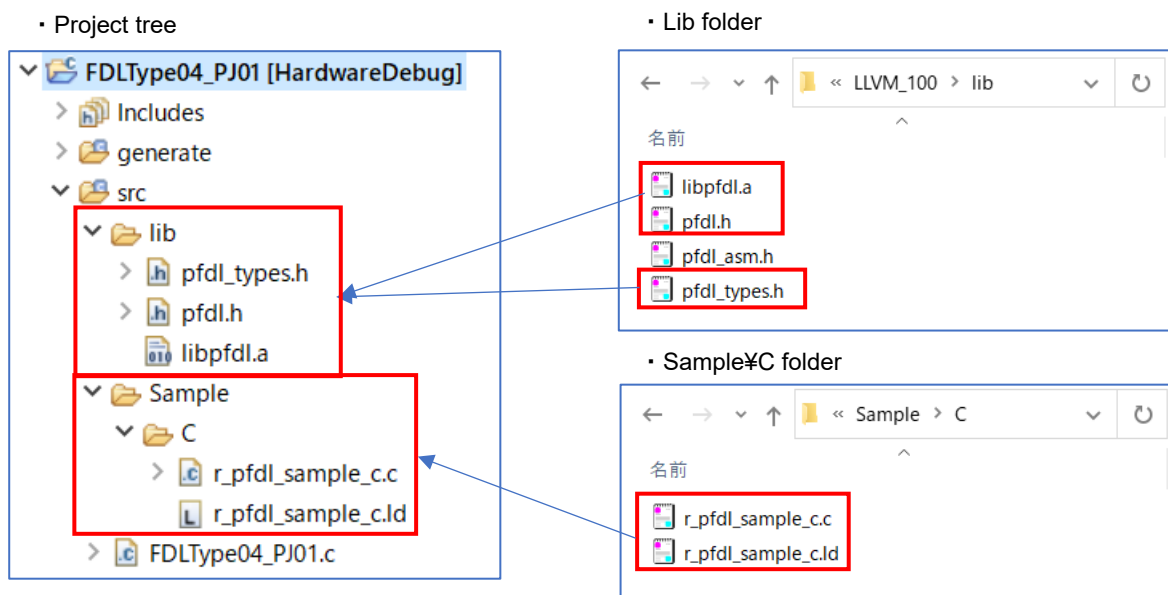

Figure 6-15. Specifying the Source and Include Files (LLVM)
- LLVM: Register the data flash library files “pfdl.h”, “pfdl_types.h”, “libpfdl.a”, “r_pfdl_sample_c.c” and “r_pfdl_sample_c.ld” in the “src” folder output by e² studio. (Figure 6-15)